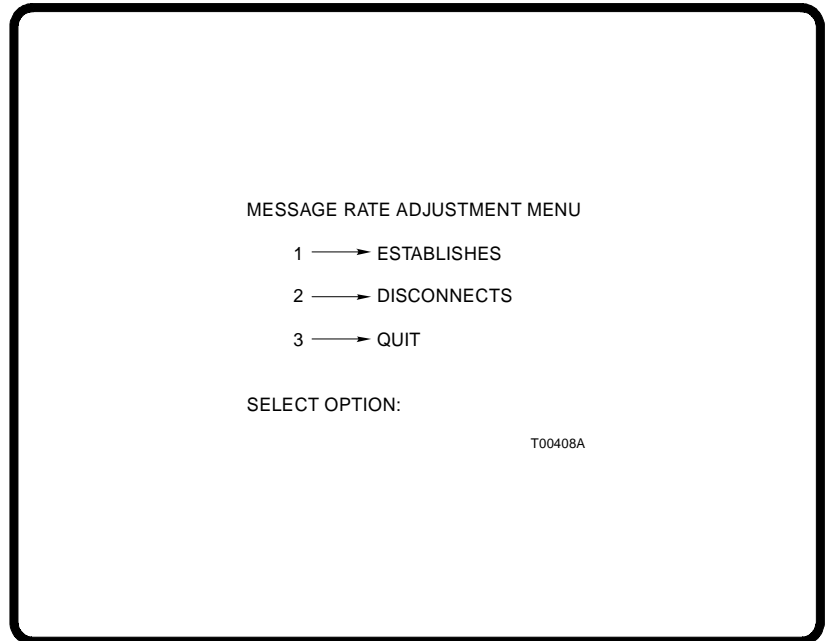

Figure 4-8. Message Rate Adjustment Menu
1. The menu shown in Figure 4-8 appears on the terminal screen.